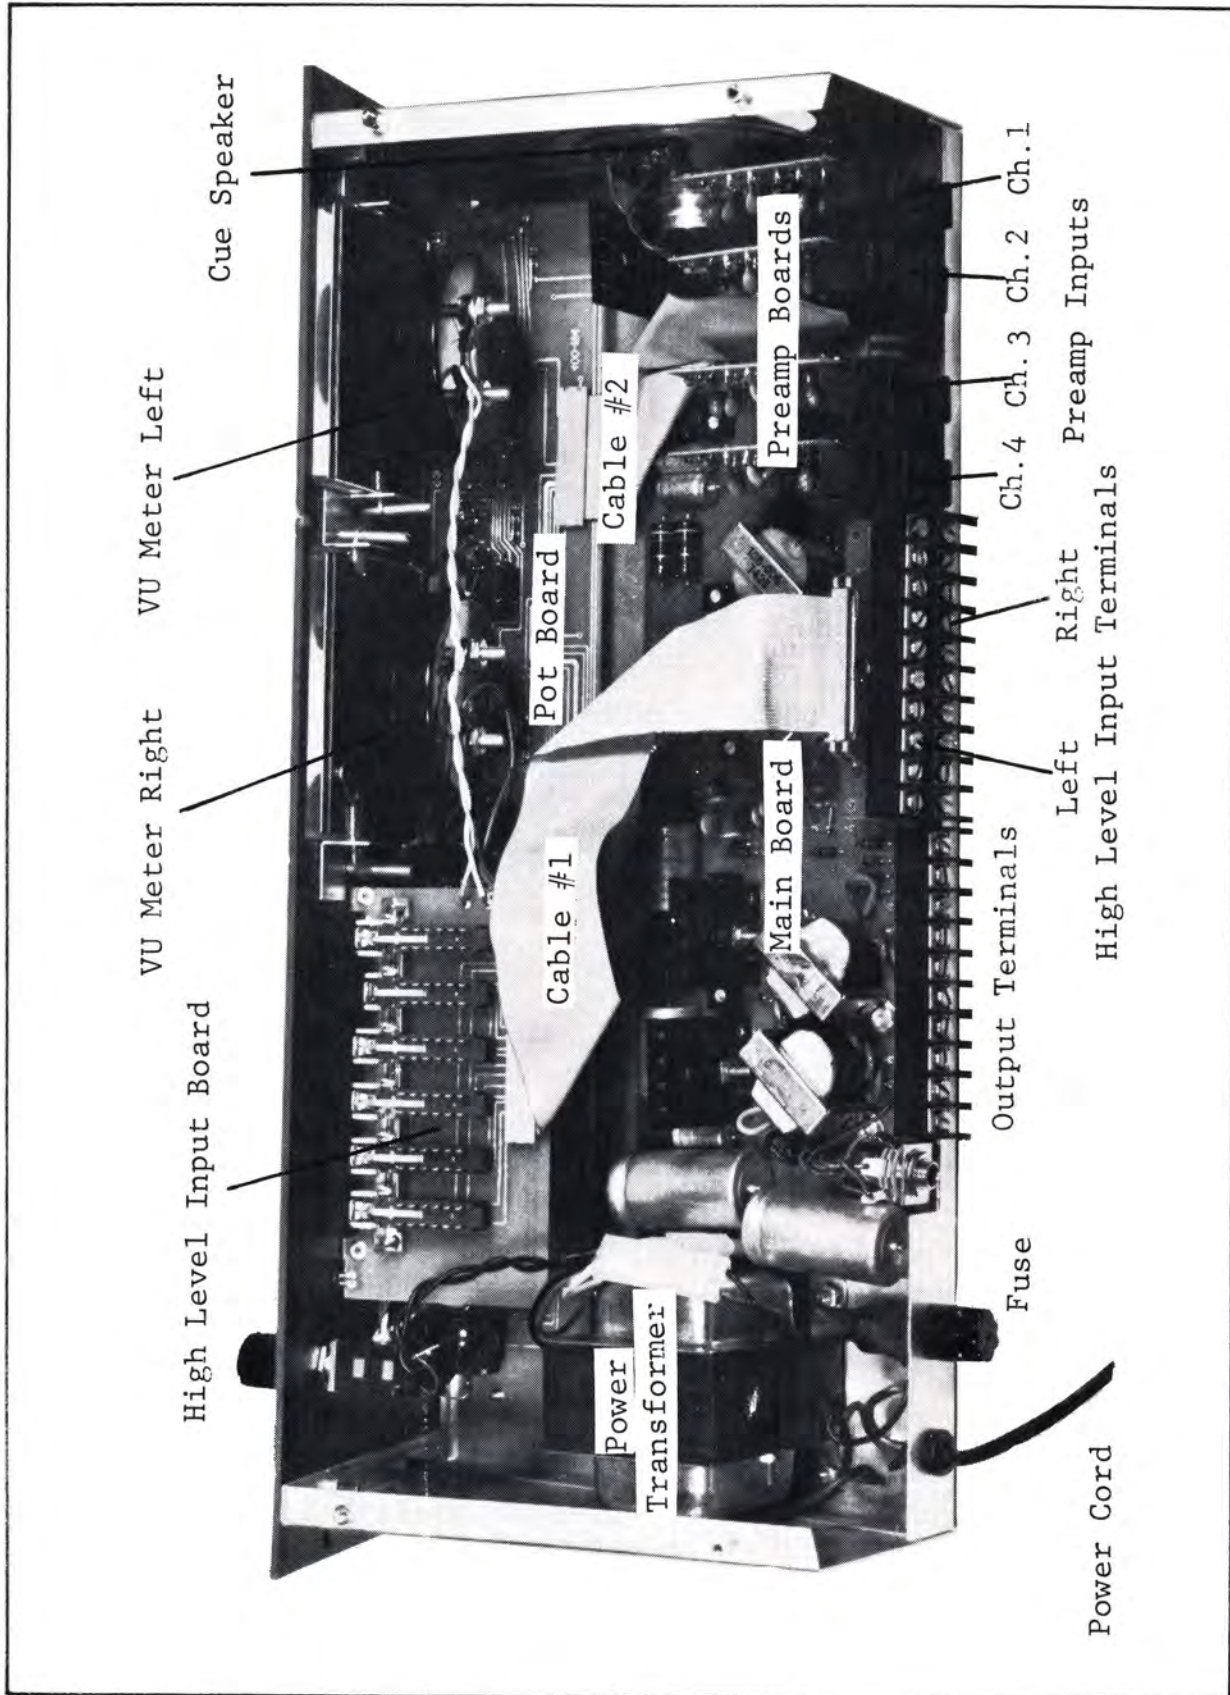

Figure 3-1 General Parts Locations
- 3-2. Jumper locations are shown in figure 3-1 thru 3-4.